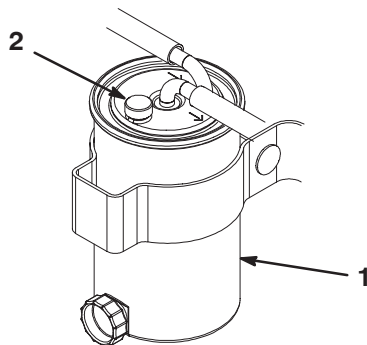

Figure 36
2. Open the breather valve, on top of the canister, until fuel leaks out (Fig. 36).